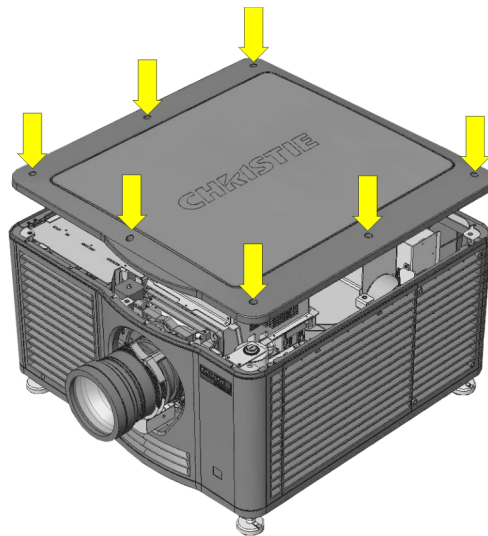

**Figure 4 Check all Coolant Hoses for Air Bubbles**
4. Continue running the projector (no lamp), topping up the reservoir as you eliminate more and more air pockets from all coolant hoses (**Figure 4**).